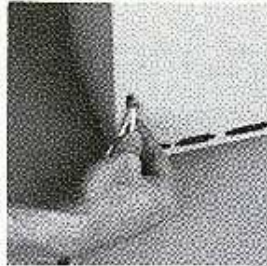

Figure 2-21
- b. Thread the host connector cable through the security slot. (See Figure 2-21.)